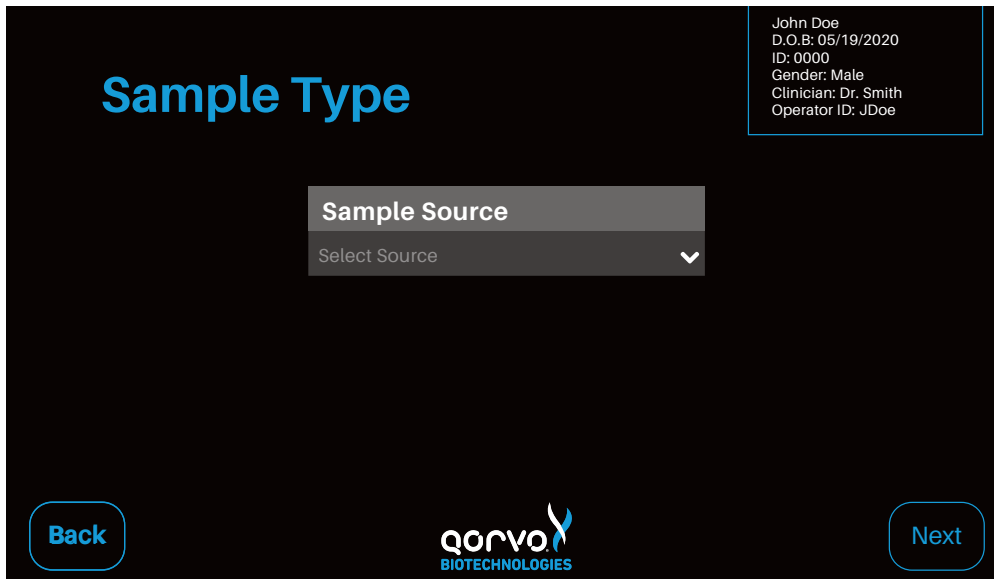

Figure 30
- Once the cartridge is read and identified, the user may be required to select the sample type as shown in Figure 30. Press "Select Source" or the down arrow to select the sample type from the pull-down display for the assay. Only sample types appropriate for the currently-configured test will be displayed.